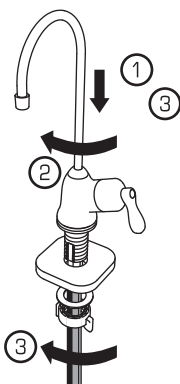

Fig. 20
2. **Press** Faucet tap spout into the main body (1) and **Screw** spout cap onto faucet body top (2). Un-screw to remove the wing nut and metal washer while keeping the rubber washer against the faucet body (Fig. 20).